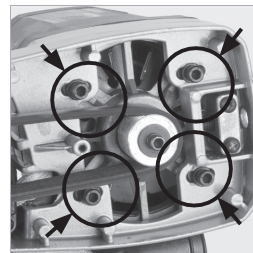

Fig. 47
- Loosen the four (4) socket headed screws which secure the motor in place. **(Fig. 47)**